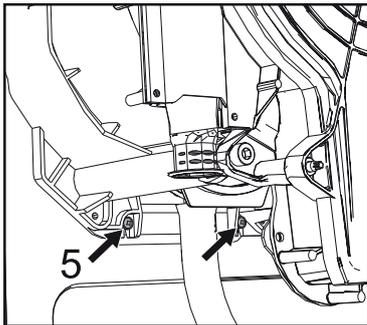

fig. 57 -
- Loosen the two lower screws "5" fastening the exchanger to the frame ("fig. 57 -")